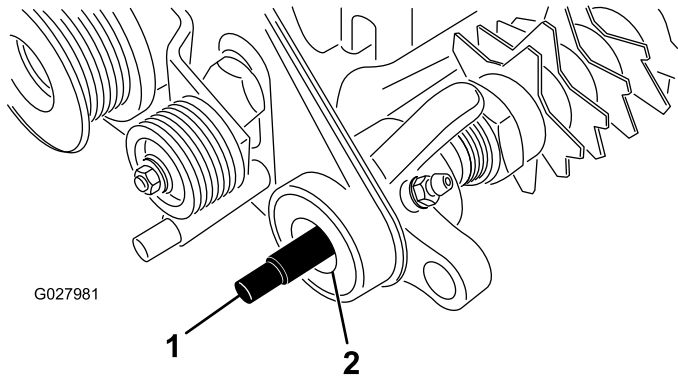

Figure 8
15. Apply grease to the seals in the drive assembly bearing support and to the end of the groomer shaft (Figure 8).
16. Slide the splined end of the groomer shaft into the drive-assembly bearing support (Figure 8).